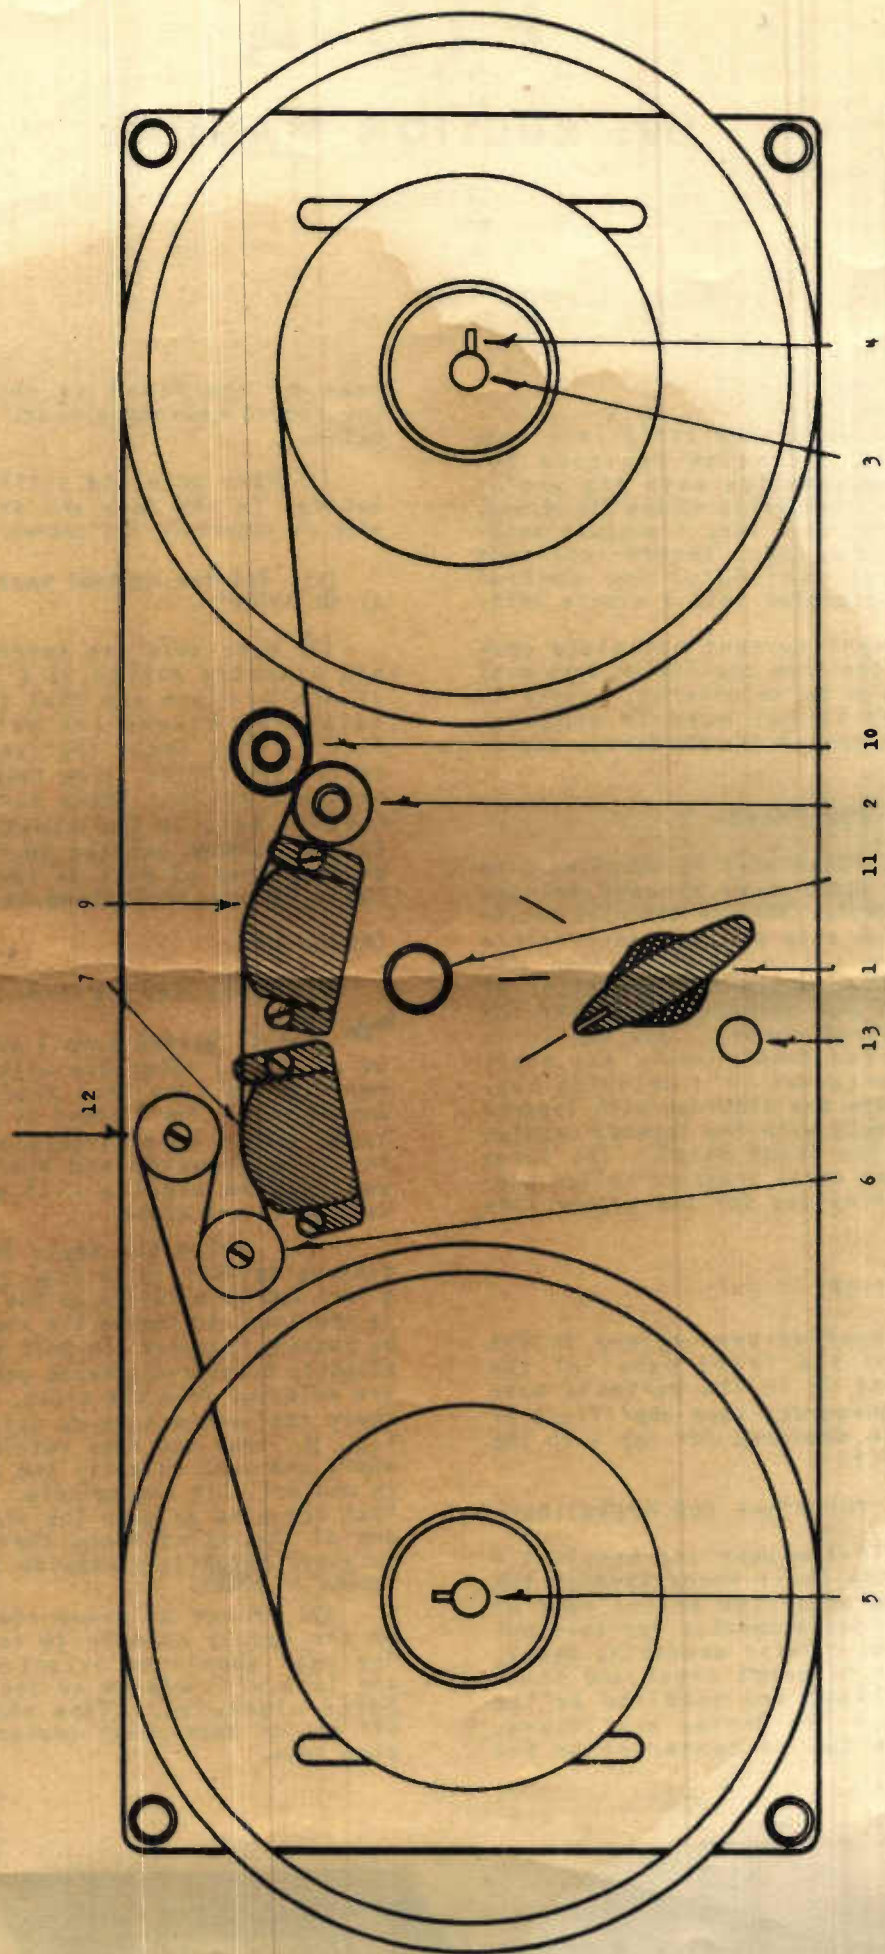

FIGURE 1
The bias indicator lamp (II in Fig. 1) will glow when plate supply voltage is being supplied to the oscillator tube. This indicates that any previous recording on the tape is being erased and a new recording may be made.
(1) Make sure the oscillator tube located in the rear and at the right side is secure in its socket.
(2) Set the control knob (1 in Fig. 1) to "STOP".
(3) Make sure the correct capstan and pressure roller (2 & 10 in Fig. 1) are in place and that the knurled retaining screws are screwed down firmly. The small (7½"/sec) capstan operates with the large rubber covered pressure roller. Make sure that the tapered hole in the capstan and the tapered shaped capstan shaft are completely free of dirt or foreign particles before installing the capstan.
(1) Place the empty reel on the take-up spindle (3 in Fig. 1). Before a reel can be installed on the spindle it is necessary to remove the reel retainer by pushing it toward the unit and turning slightly counter-clockwise until the pins are released from the slots. Place the empty reel on the take-up spindle (3 in Fig. 1). Put the reel retainer on the shaft and push in until the 3 pins are in contact with the spindle. Make sure that the pins go down the slots in the end of the spindle and then turn the retainer slightly clockwise until it is locked in place.
(2) Place a loaded reel of tape on the supply spindle (5 in Fig. 1). The reel should be oriented so that the tape will unwind as the reel rotates clockwise. Tape should come off top of spool with coated, or dull side down.
(3) Turn the supply reel clockwise by hand so that approximately 18 inches of tape or leader will unwind.
(4) Insert the end of the tape or leader in the slot on the inside of the take-up reel.
(5) Rotate the take-up reel clockwise until there are at least two full turns of tape on the reel.
(6) Slip the tape into its normal travel path; under the idler (6 in Fig. 1); over the erase head (7 in Fig. 1); over record-reproduce head (9 in Fig. 1); between capstan (2 in Fig. 1) and pressure roller (10 in Fig. 1).
(7) Rotate take-up reel to remove slack.
(8) Connect the unit to the Magrecorder PT6 amplifier. Note: If the PT6-A is to be used with some other amplifier, 117 volt 60 cycle AC must be supplied to the motors; and filament power at 6.3 volts .3 amperes and plate supply of 300 volts at 40 ma must be supplied to the oscillator tube. See schematic.
(9) Turn the control knob to "FORWARD". This puts the unit into forward operation at a speed determined by the capstan being used. If the tape does not move smoothly between the capstan and pressure roller, lift the pressure roller slightly to permit the tape to align itself properly.
(10) To rewind the tape, turn the control knob to "STOP", then place tape over lift bar so that the tape is lifted clear of the heads. Turn the control knob to "REWIND". The rewind mechanism, driven by a shaded pole motor, will completely rewind 1200 feet of tape (full $7\frac{1}{2}$ " reel) in approximately 40 seconds. The loaded reel will rotate at an increasingly higher speed as the tape is transferred back to the supply reel during rewind. The control knob may be turned to "STOP" at any time during rewind without danger of tape throw. Be sure that the tape is lowered to its normal position on the heads before attempting to record or reproduce.
(11) The bias indicator light (11 in Fig. 1) will glow when the oscillator tube plate supply voltage is applied through the Jones male connector. If the PT6-A is being used with any of the Magnecord PT6 Series amplifiers, the light will go on when the amplifier Selector Switch is turned to "RECORD". An inter-lock in the PT6-A will turn off the oscillator and the lamp whenever the PT6-A control is turned to "STOP" or "REWIND". See schematic.
The bias indicator lamp (11 in Fig. 1) will glow when plate supply voltage is being supplied to the oscillator tube. This indicates that any previous recording on the tape is being erased and a new recording may be made.